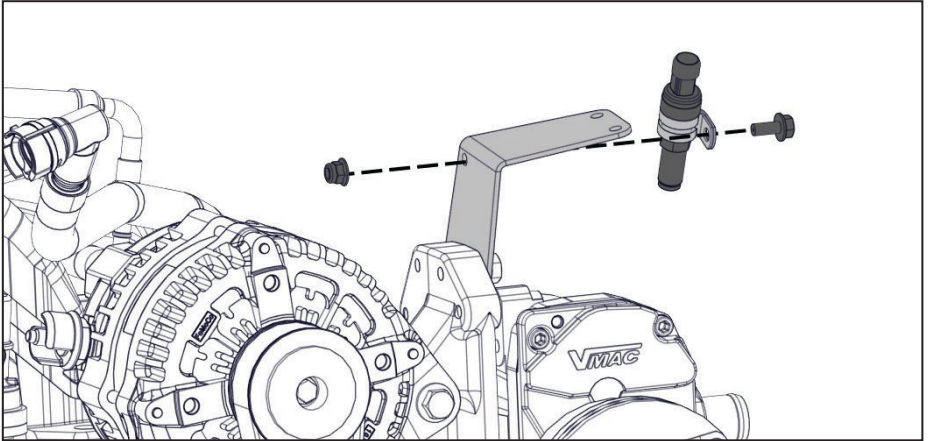

Figure 21 — Mount pressure sensor
- Using the supplied fasteners and P-clip, mount the pressure sensor on the air filter bracket (Figure 21).